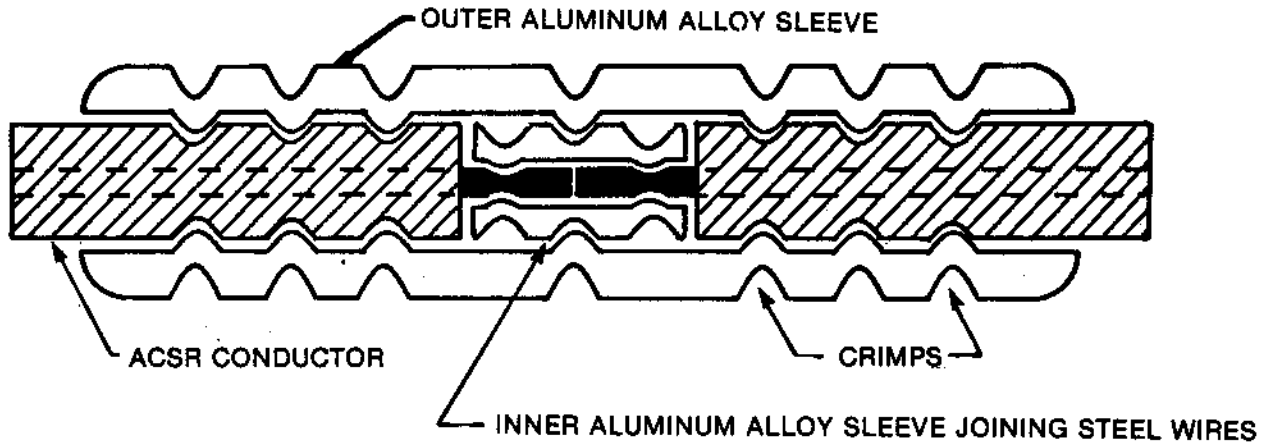

Figure 5: Special connector for joining ACSR conductors
- (c) A special connector must be used for ACSR conductors. This connector is shown in Figure 5, below.